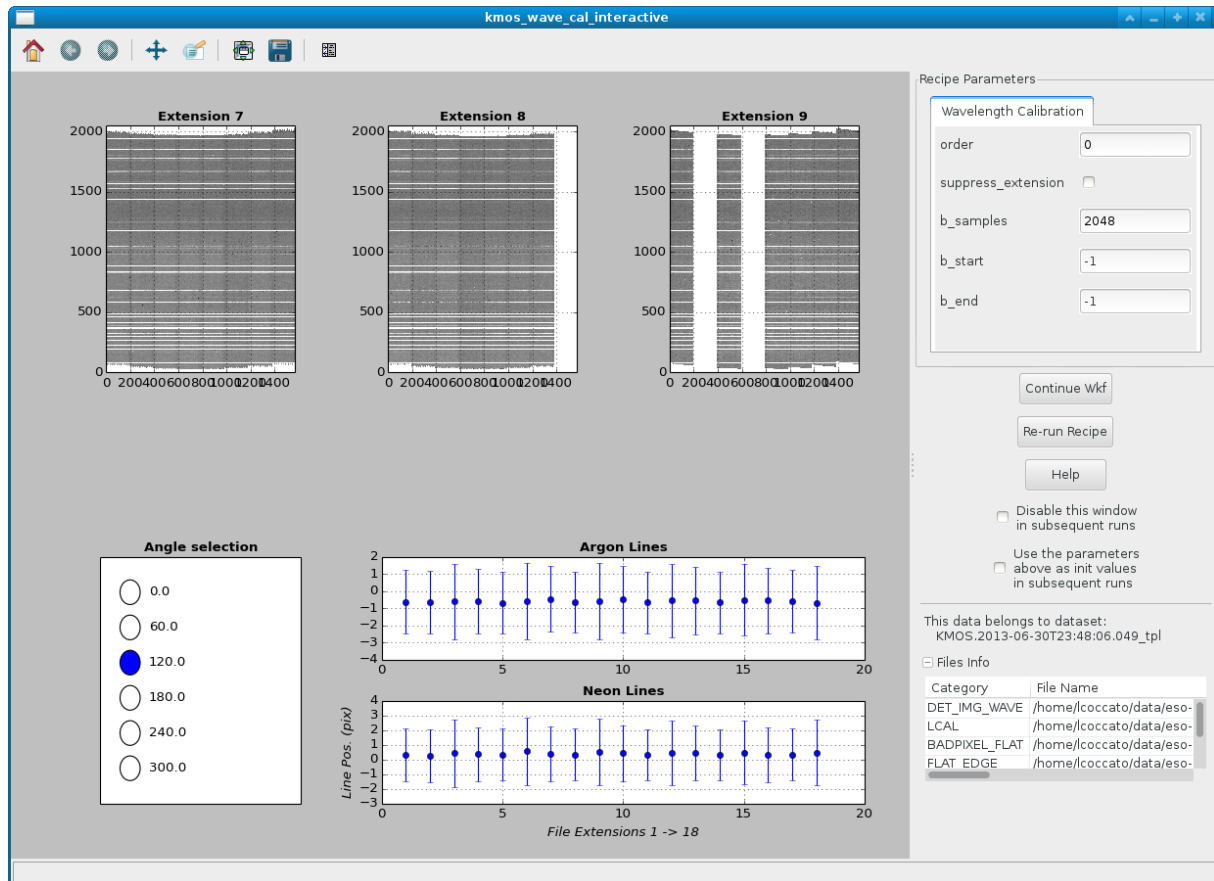

Figure 10.1: The interactive window for the Wavelength Calibration actor as displayed for the KMOS tutorial data set..
3. `Wavelength Calibration`: Figure 10.1 shows the interactive window that will pop-up at the end of the execution of the `kmo_wave_cal` pipeline routine. The image panels at the top of the window show the reconstructed arc frames for each of the three detectors at one of the six rotator position angles. To view the reconstructed arc frames at another rotator angle (either 0, 60, 120, 180, 240, or 300 degrees), simply click on the ovals in the *Angle selection* box. For each of the 18 reconstructed arc frames, the relative average offset of the reconstructed arc lines are plotted in units of pixels for each of the Argon and Neon arc lines (bottom two plots). One-half of the length of the error bars associated with each data point gives the average FWHM (in pixels) for each arc line.